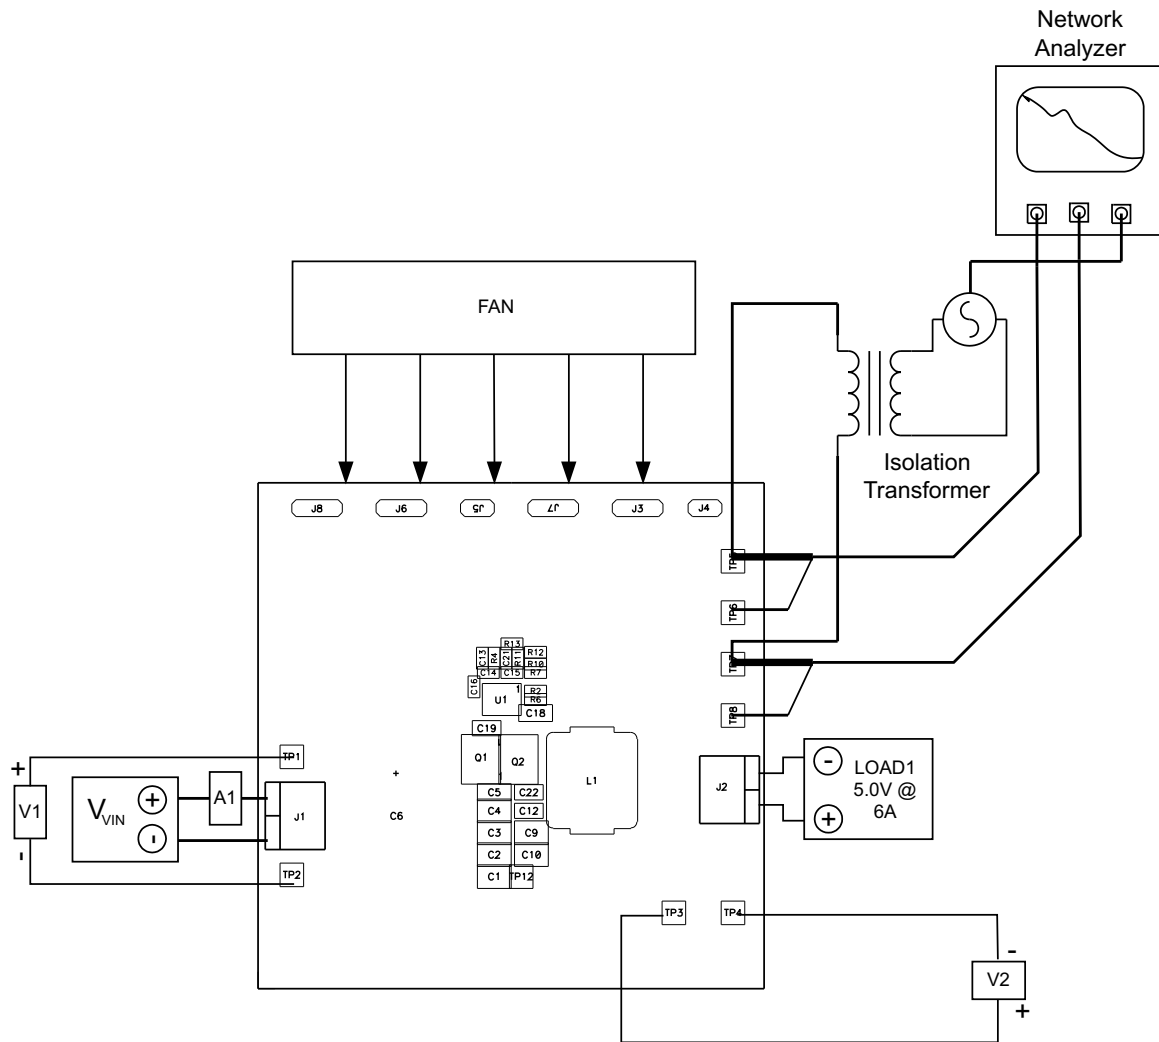

Figure 4. Control Loop Measurement Setup
TPS40170EVM-578 provides four test points (two Signal and two Ground) for measuring the control-loop frequency response. This allows the user to measure the actual module loop response without modifying the evaluation board. A transformer isolated signal up to 30 mV can be injected between TP5 and TP7. The injected signal amplitude can be measured by the ac-coupled amplitude at CHA (TP7) and the resulting output voltage deviation can be measured at CHB (TP5). See Figure 4 for additional detail.
2. Connect 1-kHz to 1-MHz isolation transformer to TP5 and TP7 as shown in Figure 4.
3. Connect input signal amplitude measurement probe (channel A) to TP7 as shown in Figure 4.
4. Connect output signal amplitude measurement probe (channel B) to TP5 as shown in Figure 4.
5. Connect ground lead of channel A and channel B to TP6 and TP8 as shown in Figure 4.